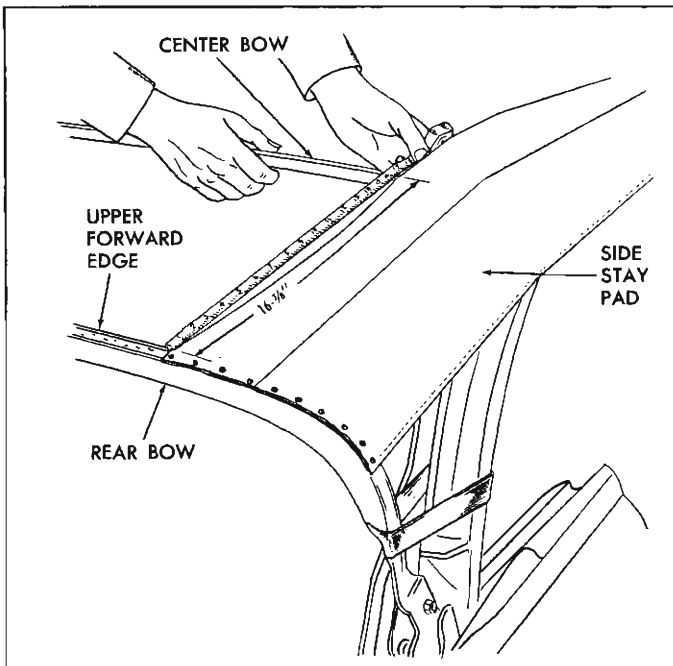

Fig. 61—Position of Rear Bow
1. If new top is being installed but it was impossible to perform Step 12 of removal procedure, preset spacer sticks to shortest length and install between center and rear roof bow (fig. 61). Adjust sticks so that dimension "X" in Figure 61 (measured along spacer stick from front upper rolled edge of rear roof bow to center of bow) is  $16\frac{3}{8}'' \pm 1/4''$ . Tie or tape rear bow to rear side roof rails.
4. Trim selvage end of side stay pads just forward of rear rolled edge of rear roof bow (fig. 61).